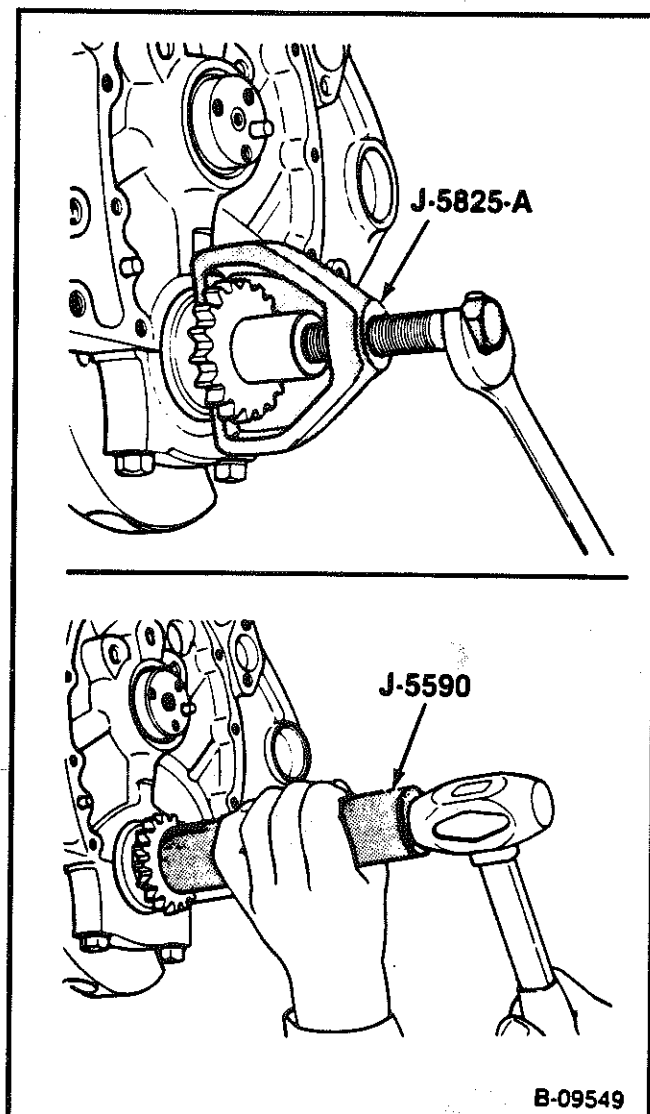

Figure 17 - Replacing the Crankshaft Sprocket
2. Bolts (30).
4. Crankshaft sprocket (if required) using J 5825-A (Figure 17).
1. Crankshaft sprocket (if removed) using J 5590 (Figure 17).
4. Bolts (30).